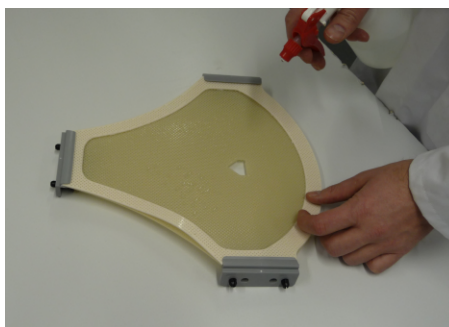

Figure 5.6 Attaching the mask to the patient
- 17 Get the mask out of the oven and spray it with water to cool down the mask before you apply it on the face of the patient. Be careful when you remove the mask from the oven so you do not burn your fingers. Immediately (in 10 seconds) put the mask on the head of the patient, see Figure 5.6. Make sure that you do not stretch the mask before you put it on the patient.